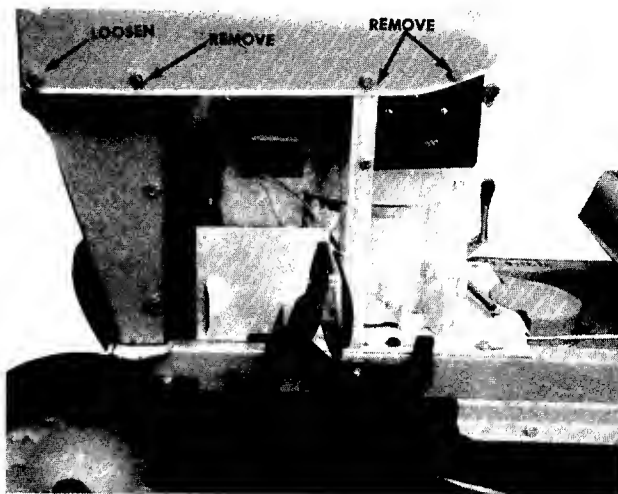

FIGURE 2. HOOD LEFT SIDE
Step 2. Remove the three bolts and nuts on the left hand side of the hood and loosen the front bolt and nut as shown in figure 2.